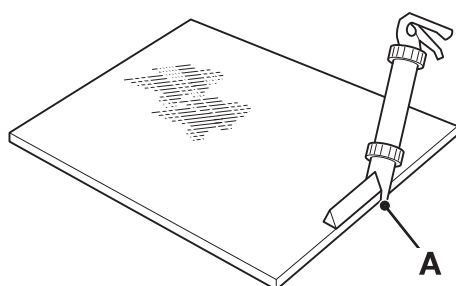

Fig 14.
- 6 Apply the pre-heated adhesive to the glass (do not start in a corner). Keep the nozzle guide **14-A** against the edge of the glass and make sure that the adhesive forms a continuous 'pyramid' shape. ⇒ Fig 14. \(□ B-46\)